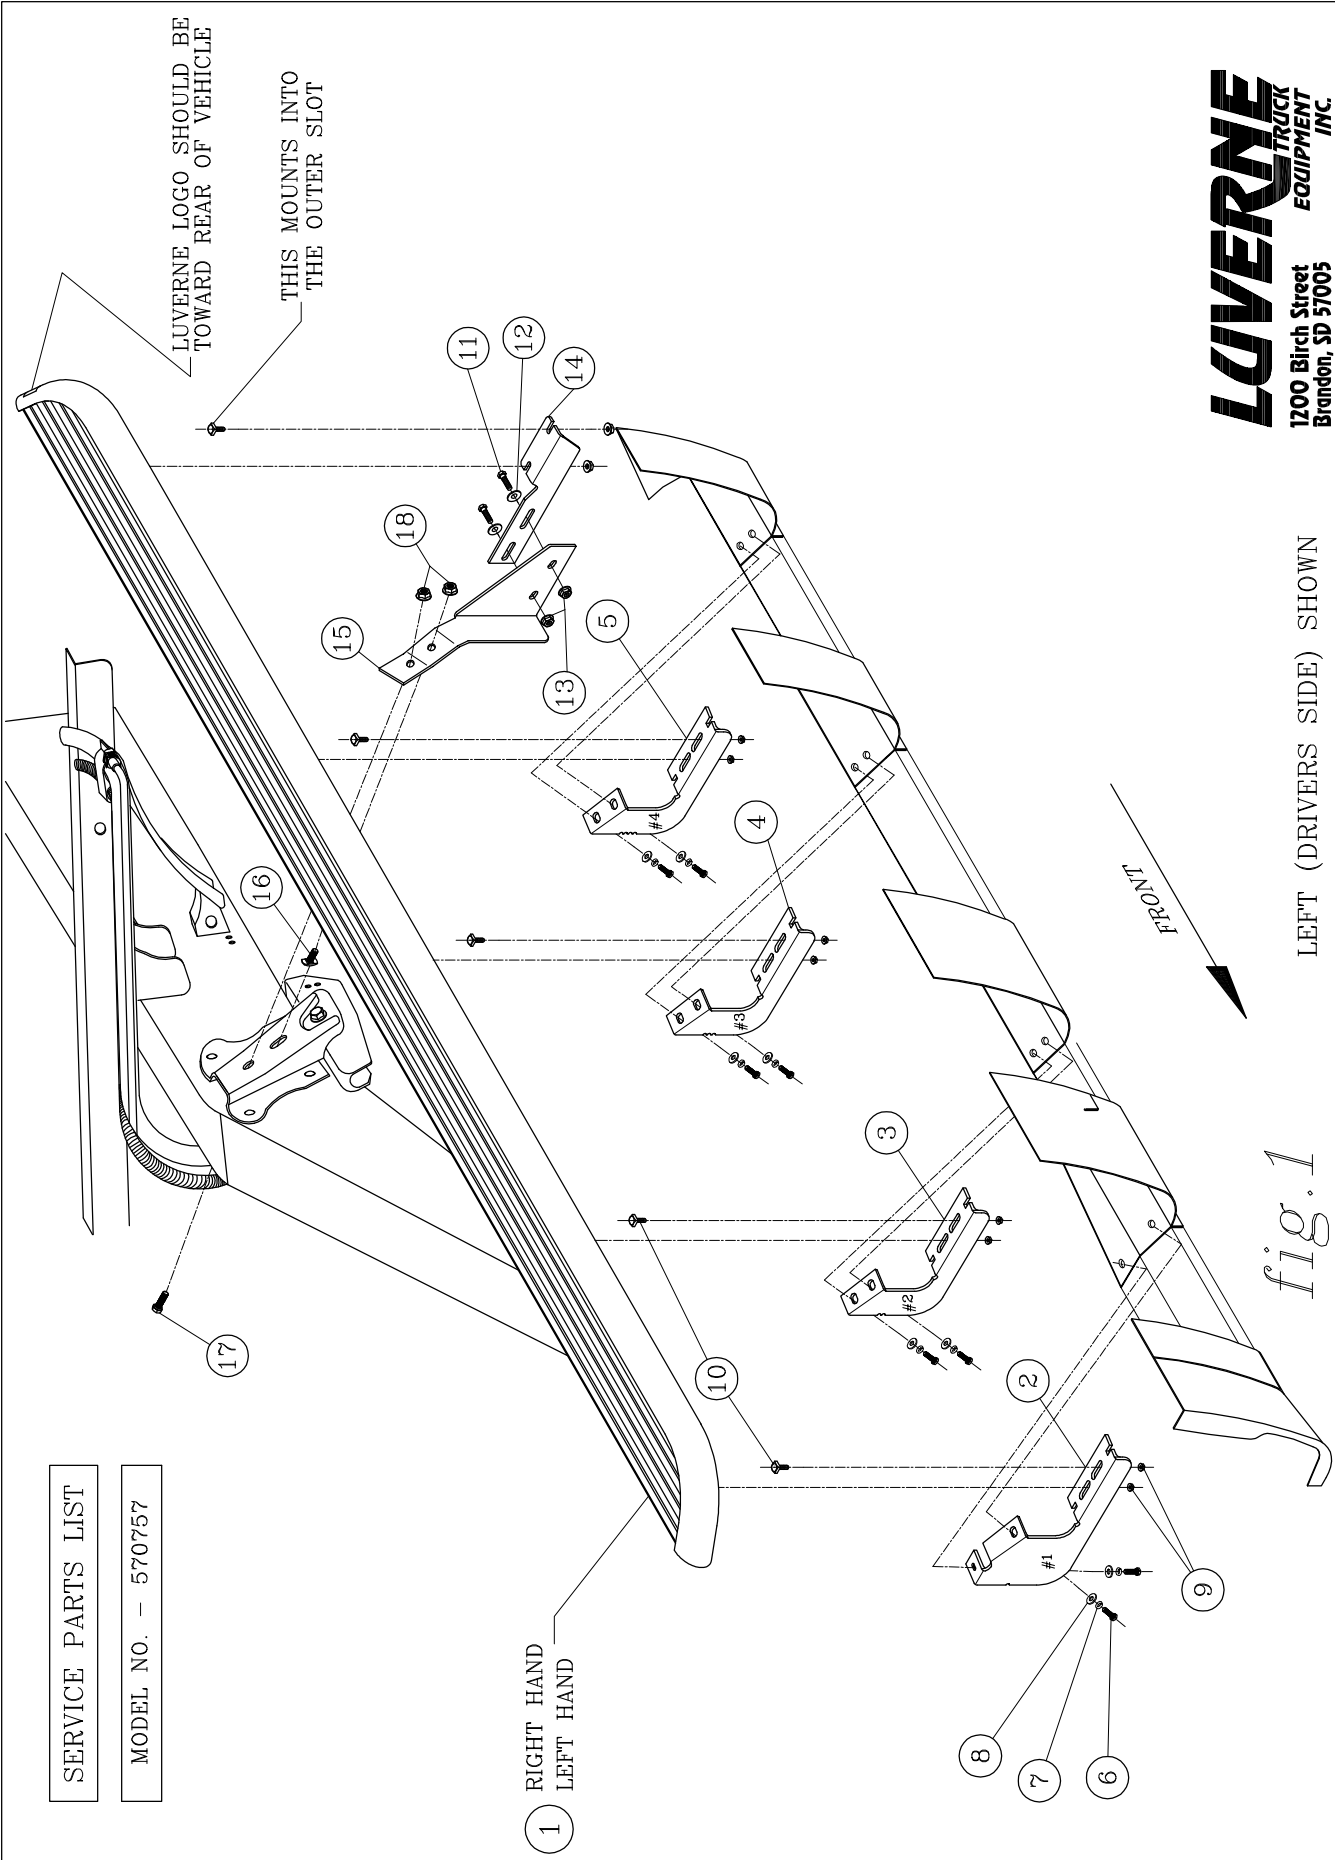

fig. 1
3. BEFORE ATTACHING THE O-MEGA STEPS TO THE BRACKETS, PLACE THE STEP PADS (ITEM #2) ON TOP OF THE STEP PLATES. USE THE TABLE ON SHEET #2, AS A GUIDE TO POSITION THE STEP PAD FOR YOUR PARTICULAR VEHICLE. WHEN INSTALLING THE PADS ON THE STEPS, DRILL (5) 1/8" HOLE USING THE STEP PAD AS A GUIDE. ATTACH WITH (5) 8-18X1/2" TEK SCREWS (ITEM #6) PROVIDED. REPEAT FOR ALL STEP PADS. (NOTE: DUE TO THE SHORTNESS OF SOME BOXES, MOUNT THE BOX STEP PAD FIRST, APPROXIMATELY 1/2" FROM THE END CAP AND THEN MOUNT THE MIDDLE STEP PAD ACCORDINGLY.)
5. INSTALL THE END CAPS (ITEM #3) AS SHOWN IN *fig. 1*, TIGHTENING THE NUTS TO 5 LB FT.
2. ATTACH THE MOUNTING BRACKETS TO THE VEHICLE USING EXISTING MOUNTING HOLES ON THE INTERIOR WALL OF THE ROCKER PANEL. **(NOTE: THE BRACKETS MUST BE PLACE IN THE PROPER POSITION. THEY ARE IDENTIFIED WITH NOTCHES ON THE INBOARD EDGE. [1 NOTCH IS FOR #1 BRACKET, ETC.] #1 WILL BE AT THE FRONT OF THE VEHICLE. SEE FIG. 1).**